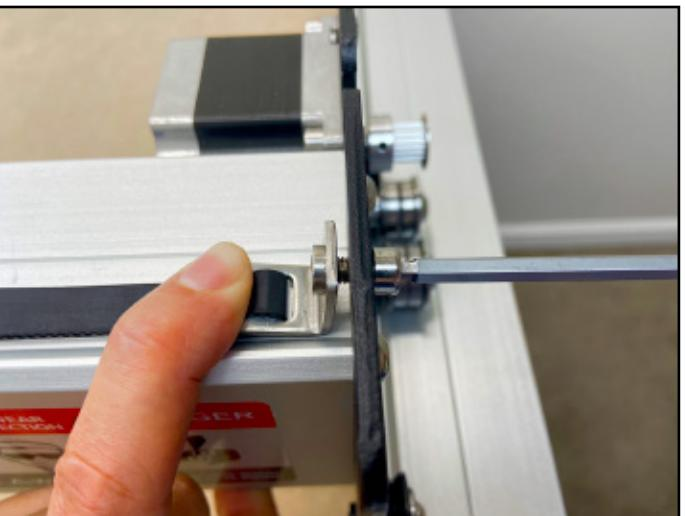

Figure 5-11
12. Use the 4mm hex key and one (1) M5x10mm socket head cap screw to attach the belt clip to the Y2-carriage. Insert the screw from the **OUTSIDE** and tighten. Do not over tighten as this could bend the X-motor pulley. See **Figure 5-11**.